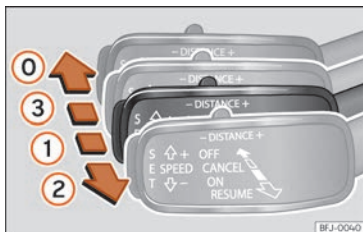
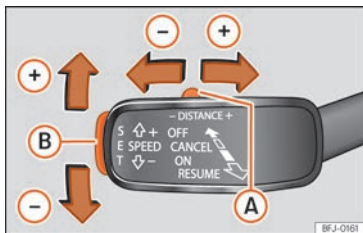

Fig. 276 On the left of the steering column: operating the ACC with the third lever.
Fig. 277 On the left of the steering column: operating the ACC with the third lever.
- To activate the ACC, move the third lever to position **ON** »» Fig. 276 (1). At this time, the ACC is not active and there is no programmed speed.
- Next, press button **SET** »» Fig. 277 (B) or move the lever to position **RESUME** »» Fig. 276 (2). At this moment the ACC is ac-
- If you wish to increase speed by intervals of 1 km/h (0.6 mph), move the lever to position **RESUME** »» Fig. 276 (2), or to decrease it press button **SET** »» Fig. 277 (B).
- To increase or reduce the distance, press button **A** to the right or left »» Fig. 277.
• To disconnect the ACC move the lever to position **OFF** (fixed) »» Fig. 276 ①. An **ACC deactivated** message appears and the function is totally deactivated.